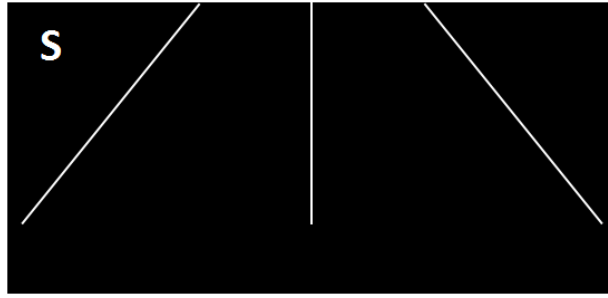

Fig. 4.15 Pre-scan Positioning Mode
The Pre-scan Positioning Mode can help the operator to better position the patient's bladder for more accurate calculation results. Press the **Scan** button on the Main Unit and hold, the upper left corner of the screen shows the scan icon "S", you can enter the Pre-scan Positioning Mode, as shown in Fig. 4.15 Pre-scan Positioning Mode.
- ① When the bladder is not found in the scanning area, the circular graph and the indicated area are not displayed as shown in Fig. 4.15. The scanning angle and position should be adjusted at this moment until the bladder is found, that is, the circular graph appears on the screen.
- ② When the bladder is found in the scanning area, it is displayed as a circular graph. The center of the circle is the center of the bladder and the size of the circular area represents the size of the estimated measured value in real time. The closer the center of the circle is to the center line, the larger the size of the circular area is, and the more accurate the measurement will be.